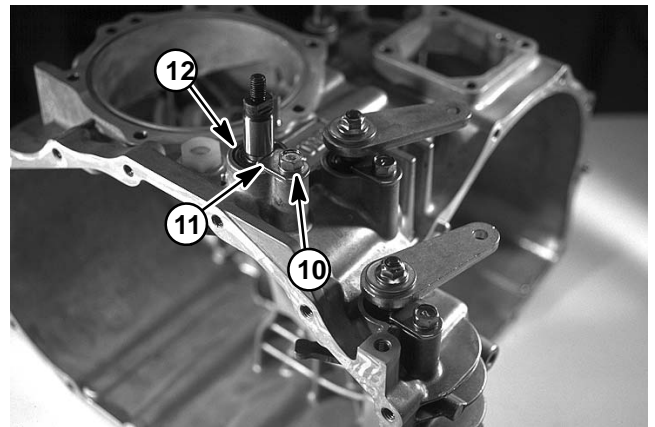

Figure 38
C. Loosen cap screws (Fig. 38) and remove keeper plates.